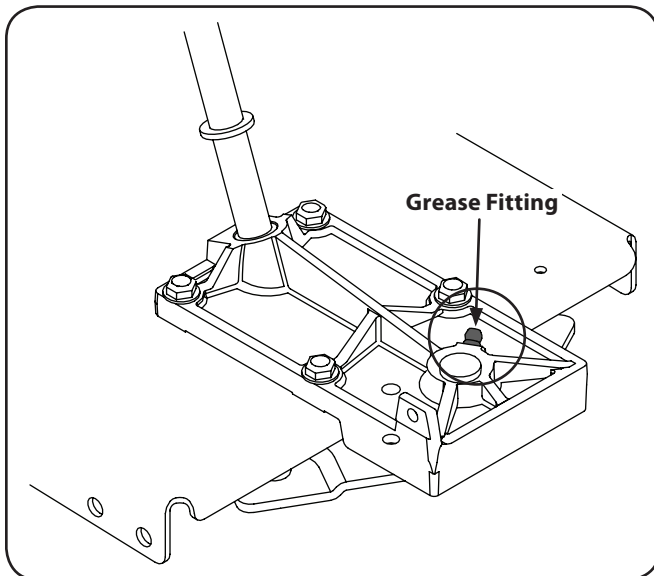

Figure 6-7
2. Locate the grease fitting for the steering housing under the battery. See Fig 6-7.